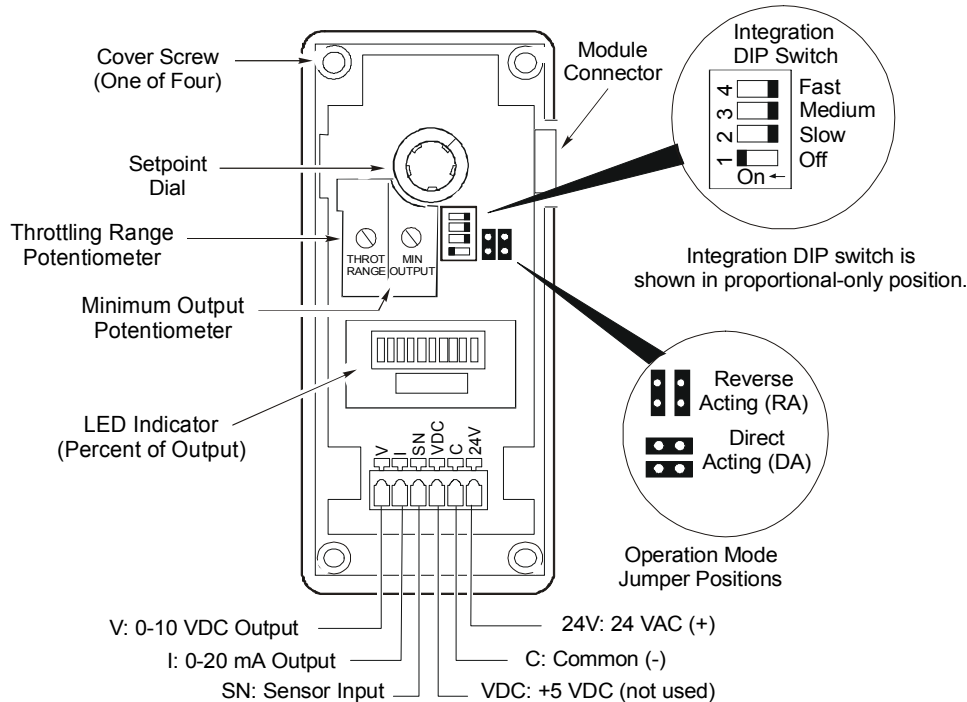

Figure 2: Interior View Showing A350P Control's Features
Make the adjustment at the minimum output potentiometer marked as MIN OUTPUT. (See Figure 2.) For each 10% increase in output, the **next** bar on the LED indicator will light (only one bar is lit at any time).
The throttling range is the range over which a control is active. Throttling range for the A350P control can be adjusted from 2 to 30F° (1 to 17C°). Make the adjustment at the throttling range potentiometer marked THROT RANGE (see Figure 2).
The A350P control has three field-selectable integration constants and an off position. The integration DIP switch selects the integration constant. (See Figure 2 for location.)
Select the RA/DA mode by positioning the operation jumpers vertically or horizontally. (See Figure 2.) Position the operation jumpers vertically for RA and horizontally for DA.
1. Locate the throttling range and minimum output potentiometers on the main PC board. (See Figure 2.) Carefully remove the knobs and the existing decal.
The sensor must be connected to Terminals SN and C. (See Figure 2.) The sensors are not polarity sensitive.